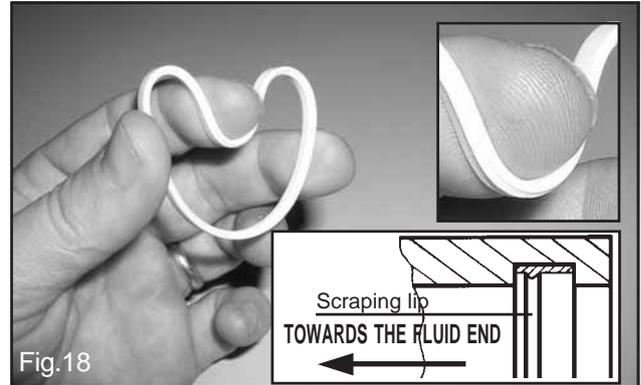

Fig.18
In order to fit the scraper in place shape it manually as shown in Fig.18.
**VERY IMPORTANT!** the scraper is provided with an internal lip which performs the correct scraping effect only if oriented towards the fluid end. See window inside Fig.18.